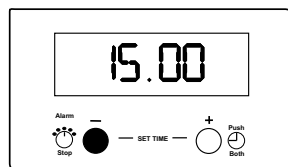

Fig. 8.
To stop the sound press button (1). The bell symbol will go out and show the time of day, e.g. 15.00, see Fig. 8.